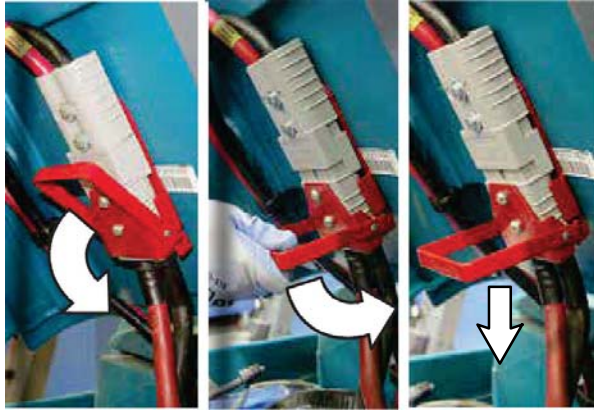

FIG. 4
1. To disconnect the battery cable from the machine: Pull down on the battery quick-disconnect lever installed on the battery cable connector and while still holding the handle pull the connector away from the machine battery cable. **Do Not** pull on the cables. (Fig. 4)